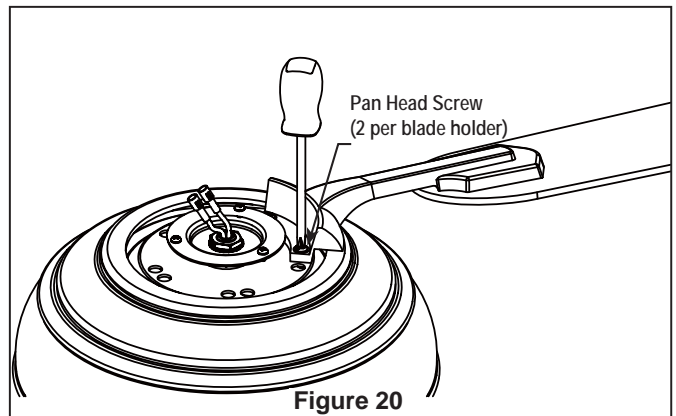

Figure 20
3. Secure the blade holders to the motor support using the 1/4"-20 screws through the holes located on the side of the motor support (Figure 20).